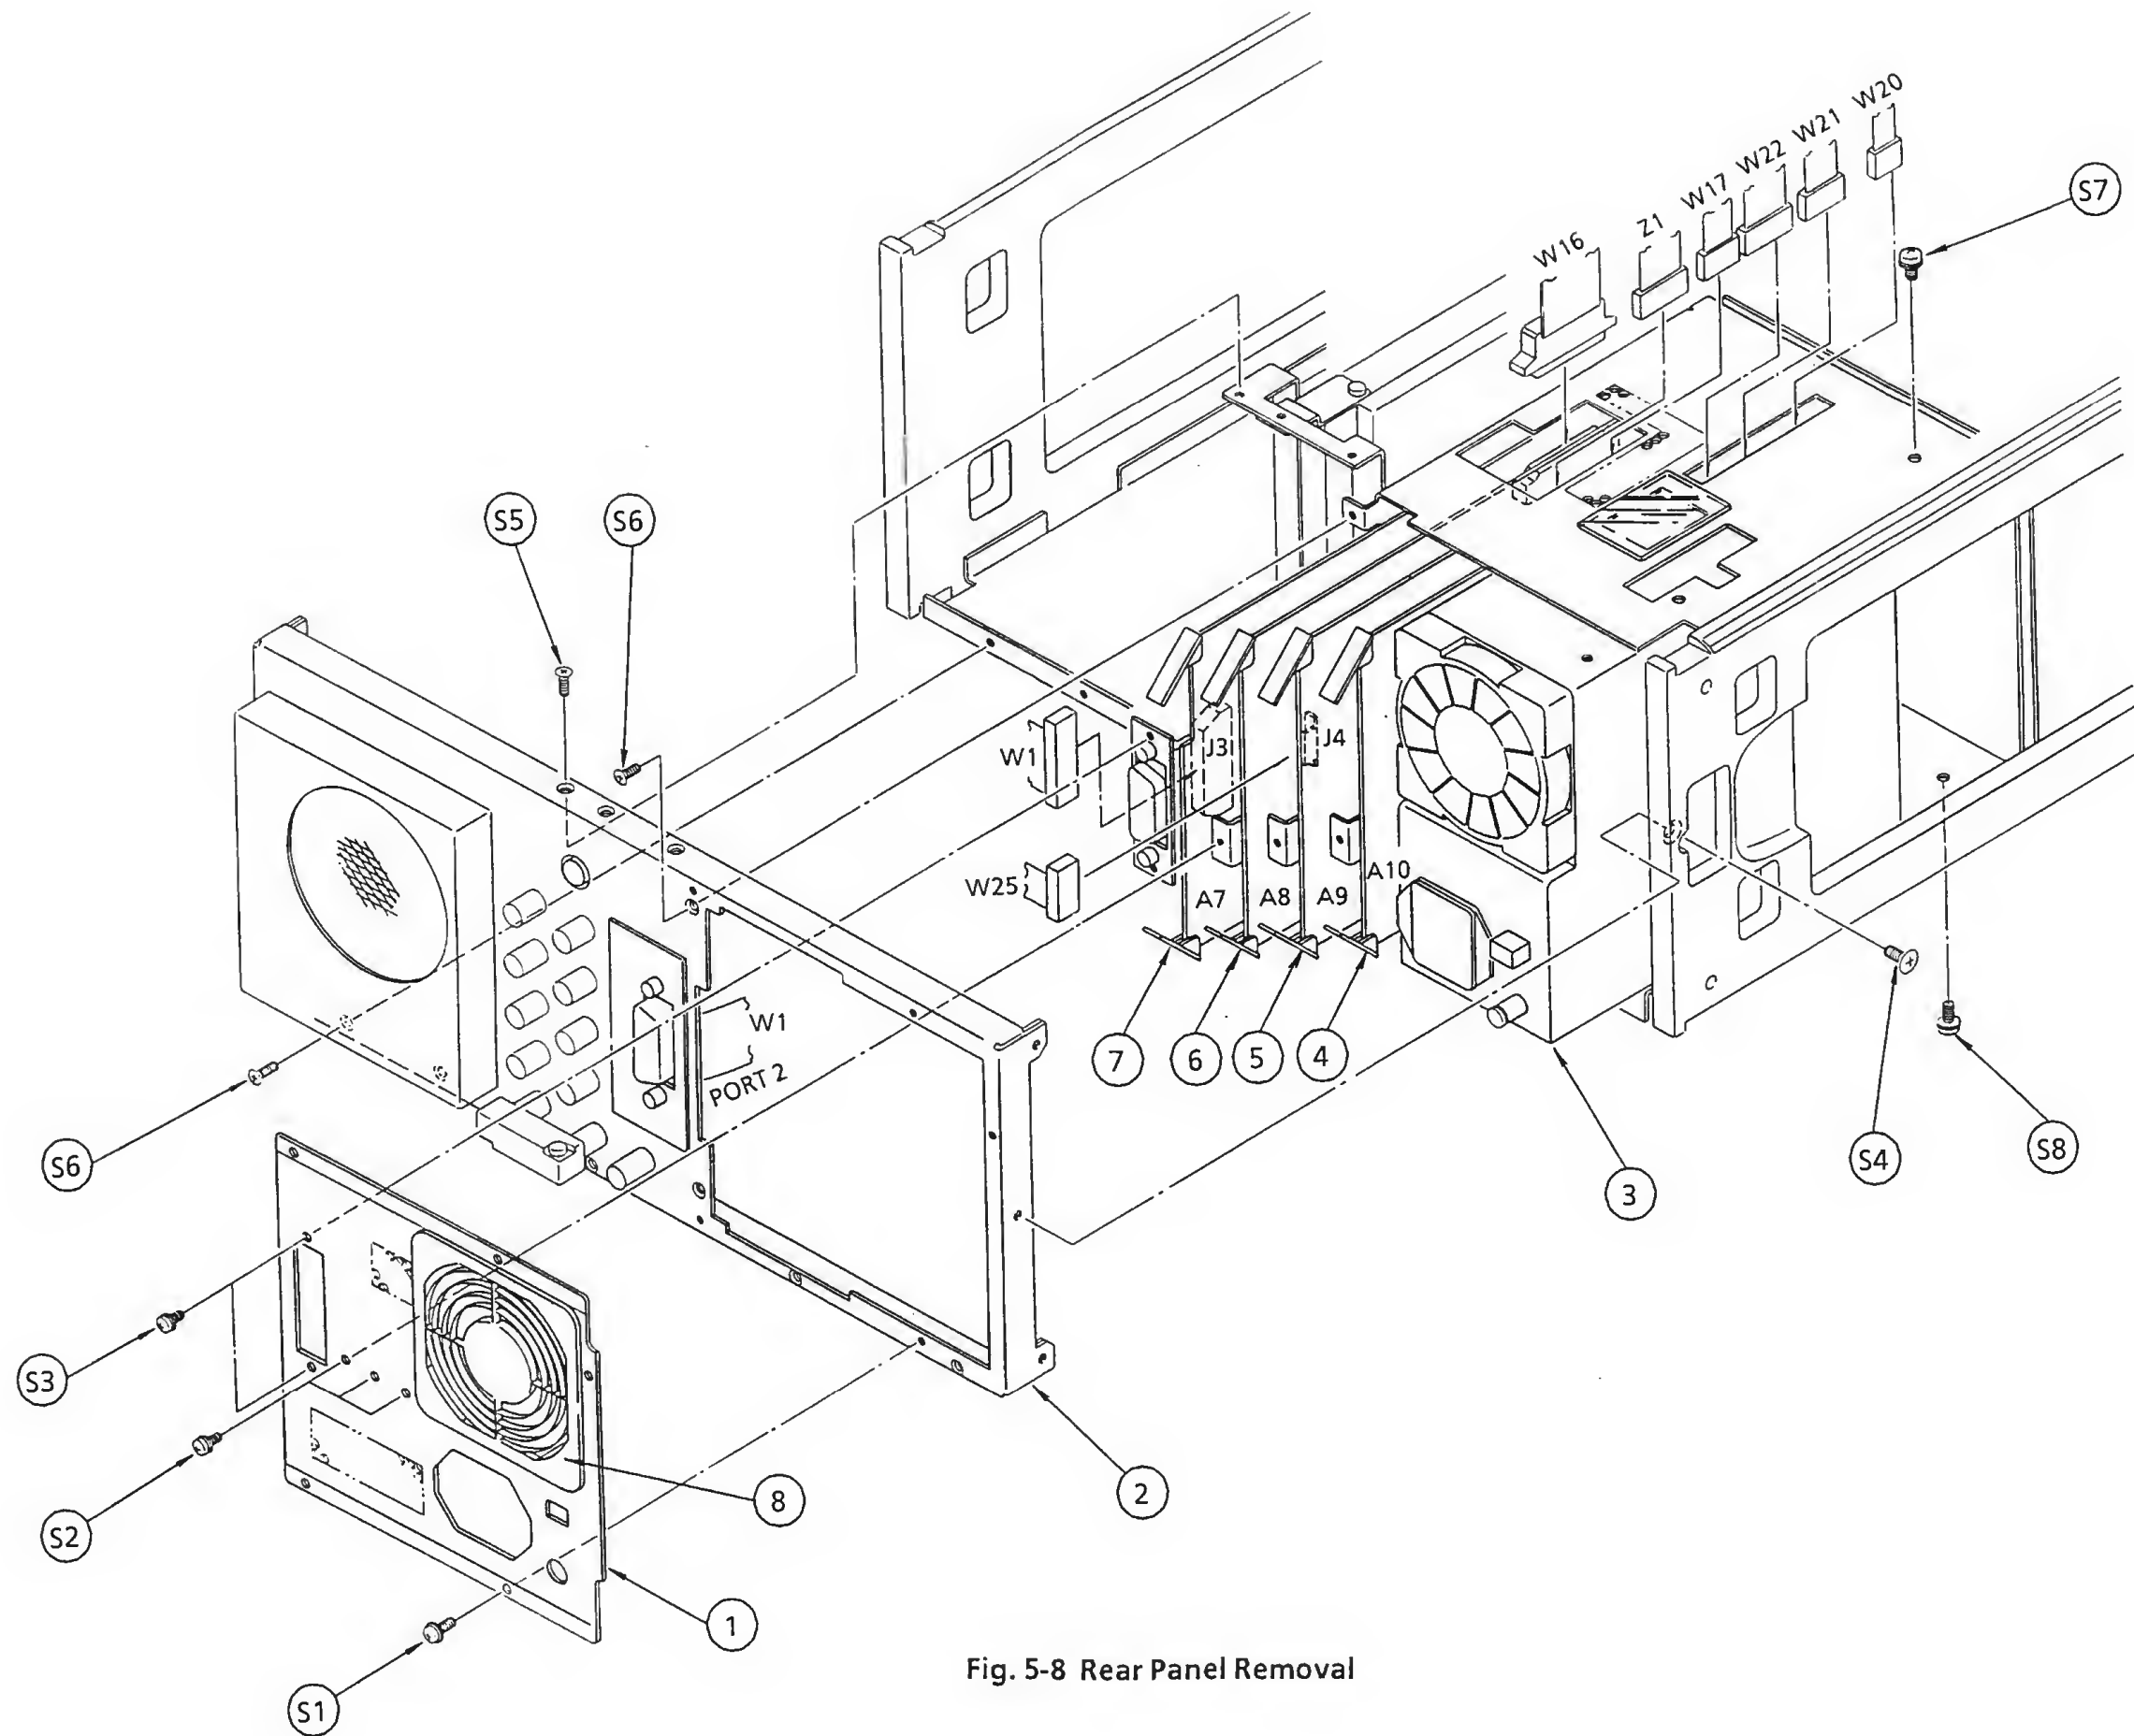

Fig. 5-8 Rear Panel Removal
#### 5.3.14 Removing rear decorative panel ① (Fig. 5-8)
#### 5.3.15 Removing rear panel ② (Fig. 5-8)
#### 5.3.16 Removing Z2: power supply unit ③ (Fig. 5-8)
#### 5.3.17 Removing A10: MAIN CPU unit ④ (Fig. 5-8)
### 5.3.18 Removing A9: DISP CPU unit ⑤ (Fig. 5-8)
### 5.3.19 Removing A8: MEAS CPU unit ⑥ (Fig. 5-8)
### 5.3.20 Removing A7: INTERFACE 1 unit ⑦ (Fig. 5-8)